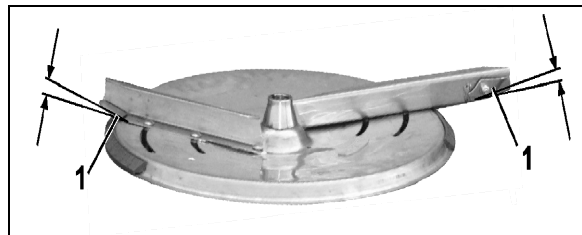

Fig. 47
3. Swivel the swivel blades (Fig. 47/1) of the spreading vanes to the required position for normal fertilising or late top dressing.